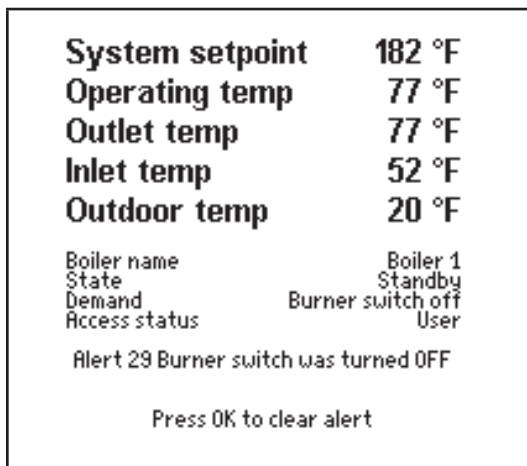
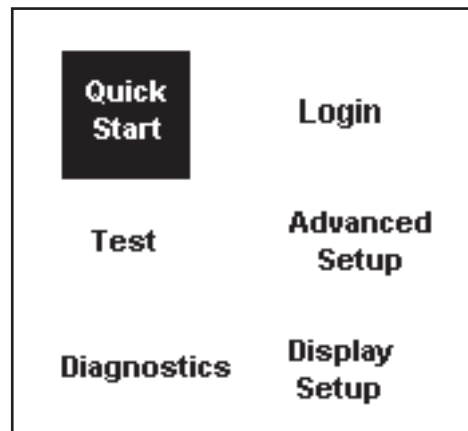

Figure 20. - Home Display
Figure 21. - Info/ Install Display
When the boiler is operating normally, the controller will display the Home display. See Figure 20.
- From the Home display shown in Figure 20, press the "I" button ("Info/ Install"). The display will change to show the six sub-menus available. See Figure 21.
- From the Info/ Install screen (Figure 21), select Login.